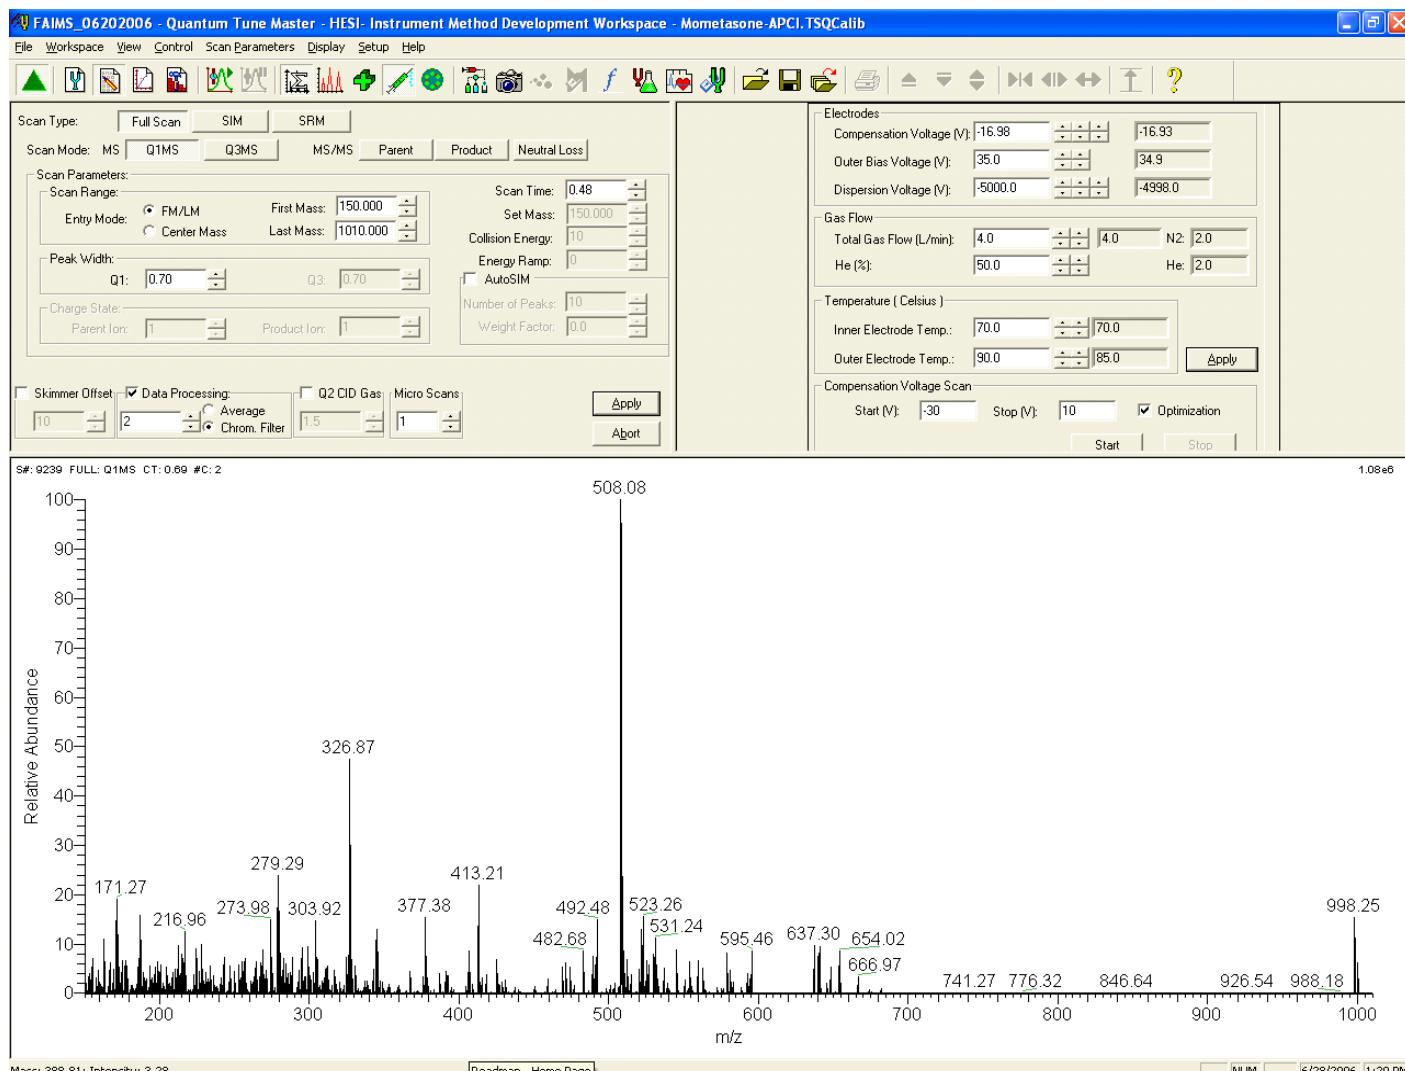

Figure 35. Mass spectrum with FAIMS selection of polytyrosine - 3
- b. Enter **-16.98** in the Compensation Voltage box and click **Apply**. Figure 35 shows the mass spectrum with FAIMS selection of the polytyrosine - 3 ion.